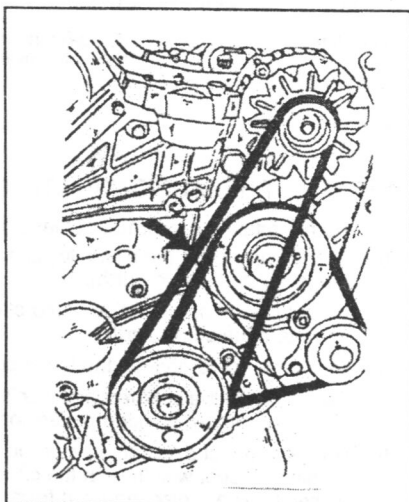

Fig. 9.1. — Details of the alternator belt adjustment, shown on a typical installation. Check the tension at the point shown by the arrow.
- Slacken the alternator mounting bolts and move the alternator towards the outside with normal hand pressure. Tighten the alternator bolts and check the deflection at the point shown by the arrow in Fig. 9.1. Approx. 1/2 of an inch is a fairly good adjustment, perhaps a little less. Tighten the adjusting strut bolt in this position.